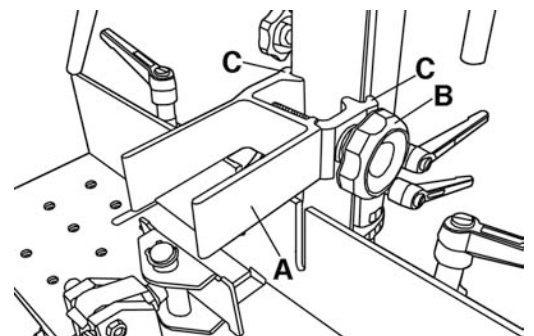

Figure 14
This mortiser also comes with a fork hold down (A) Fig.14 which gets mounted to the column. Because this hold down slides down in between the slots in the fence and holds the workpiece against the table, it can only be used when making single cuts in a workpiece and when the fence/sliding table stays stationary in the centered position, or else you must unclamp, reposition and reclamp your workpiece for each cut.